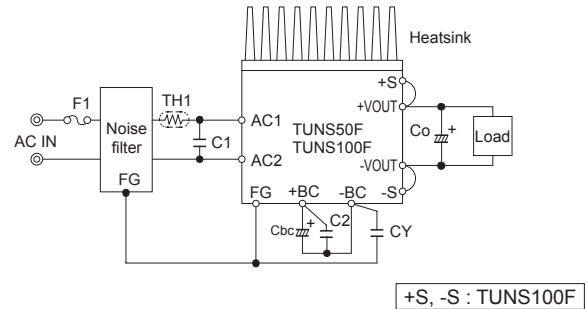

Fig.2.1 Connection for standard use
■To use TUNS series, connection shown in Fig.2.1 and external components are required.
(1) Co : Output capacitor
- Install an external capacitor Co between +VOUT and -VOUT pins for stable operation of the power supply (Fig.2.1). Recommended capacitance of Co is shown in Table 3.3.